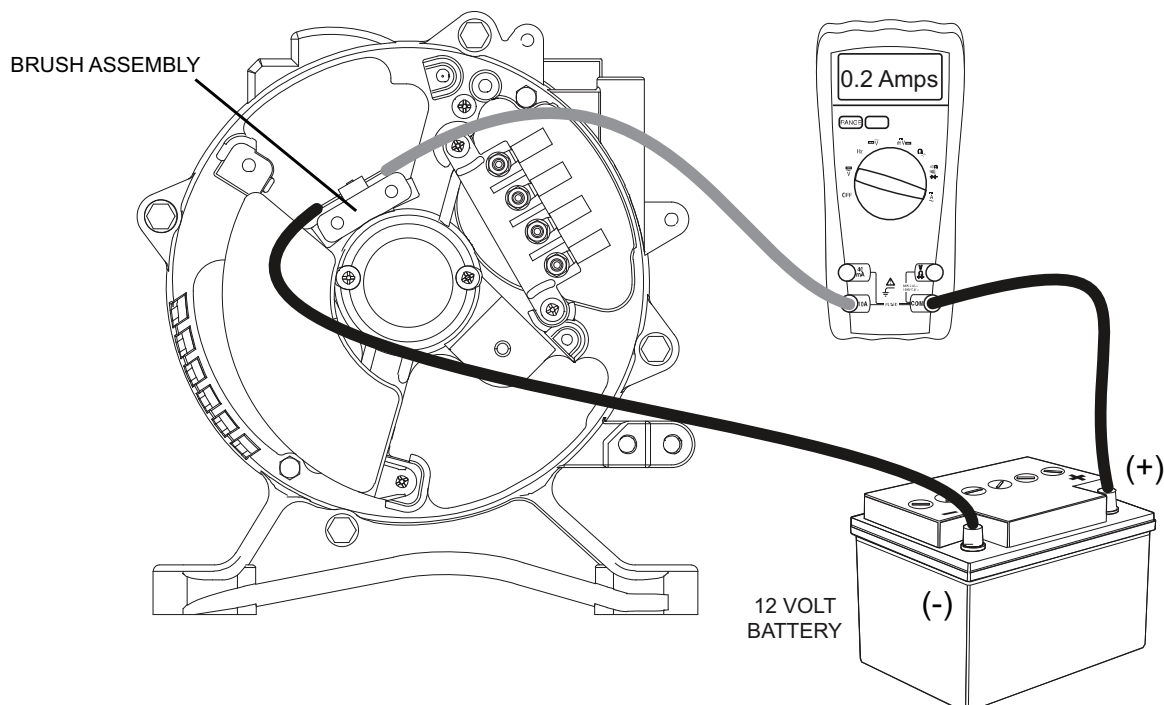

Figure 3-5. Jumper Wire and DMM Between Battery and Brush Assembly
11. See **Figure 3-5**. Connect one meter test lead to Wire 2 and the other meter test lead to Wire 6 on the C1 female connector.